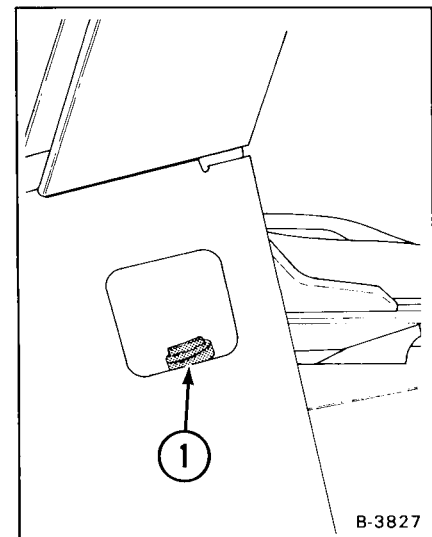

Fig. 1 – 13 Fuel Fill Location
- (3) Operate the hand pump (Fig. 14, Item 4) until the fuel flows from the vent plug on the top of the fuel filter (Fig. 1 – 14, Item 3).